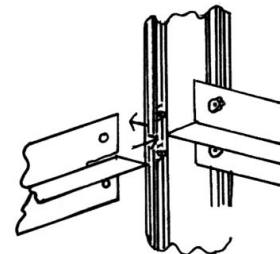

Figure 3
(v) Join the rear & front sections using the width horizontals (D). Position the slot at each end of the width horizontals (D) over the flat part of the length horizontals (C) then slide the width horizontals onto the bolt stems of the square headed bolts you have positioned – as shown in figure 3.